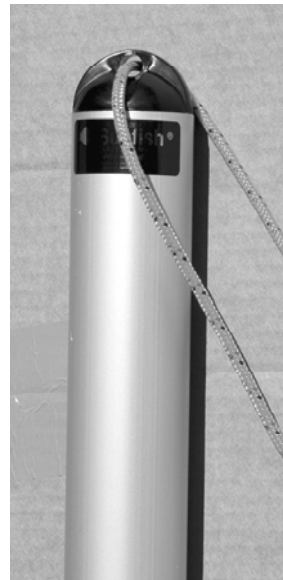

Figure: 46
1. Locate the mast, as well as the main halyard from the line bag. Thread one half of the halyard through the hole in the mast top cap (Figure 46).